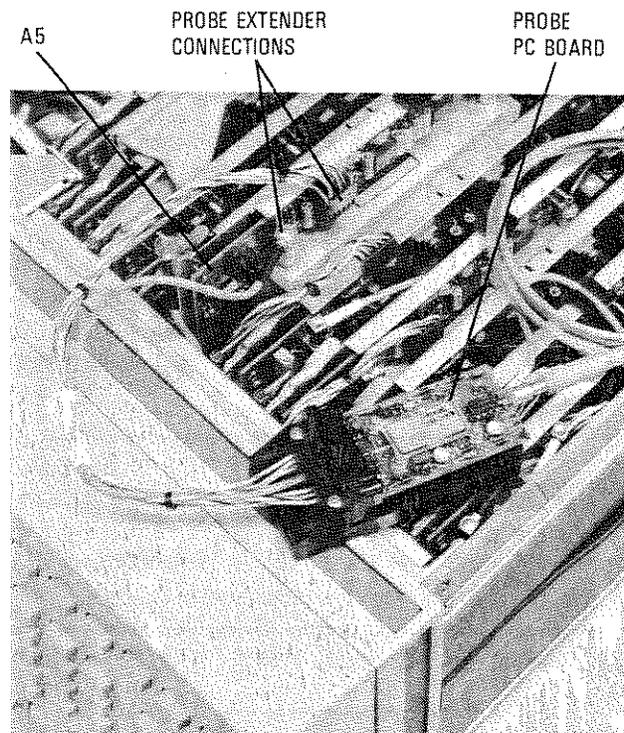

Figure 6. Probe Extender Connections
- c. Disconnect the probe wiring harness and flexible coax from the channel 1 sampling board (A5) and connect the 54100-63802 probe extender in their places. You may want to raise the PC board slightly to facilitate these connections. Insure that the board locks at the front and rear of A5 are released before you attempt to raise the PC board. Make sure the board is resealed before continuing (see figure 6).
2-5. Reconnect the cable connector to the PC board as shown in figure 6.
2-6. Connect the PC board to the probe extender. This allows the adjustment points to be exposed (see figure 6).